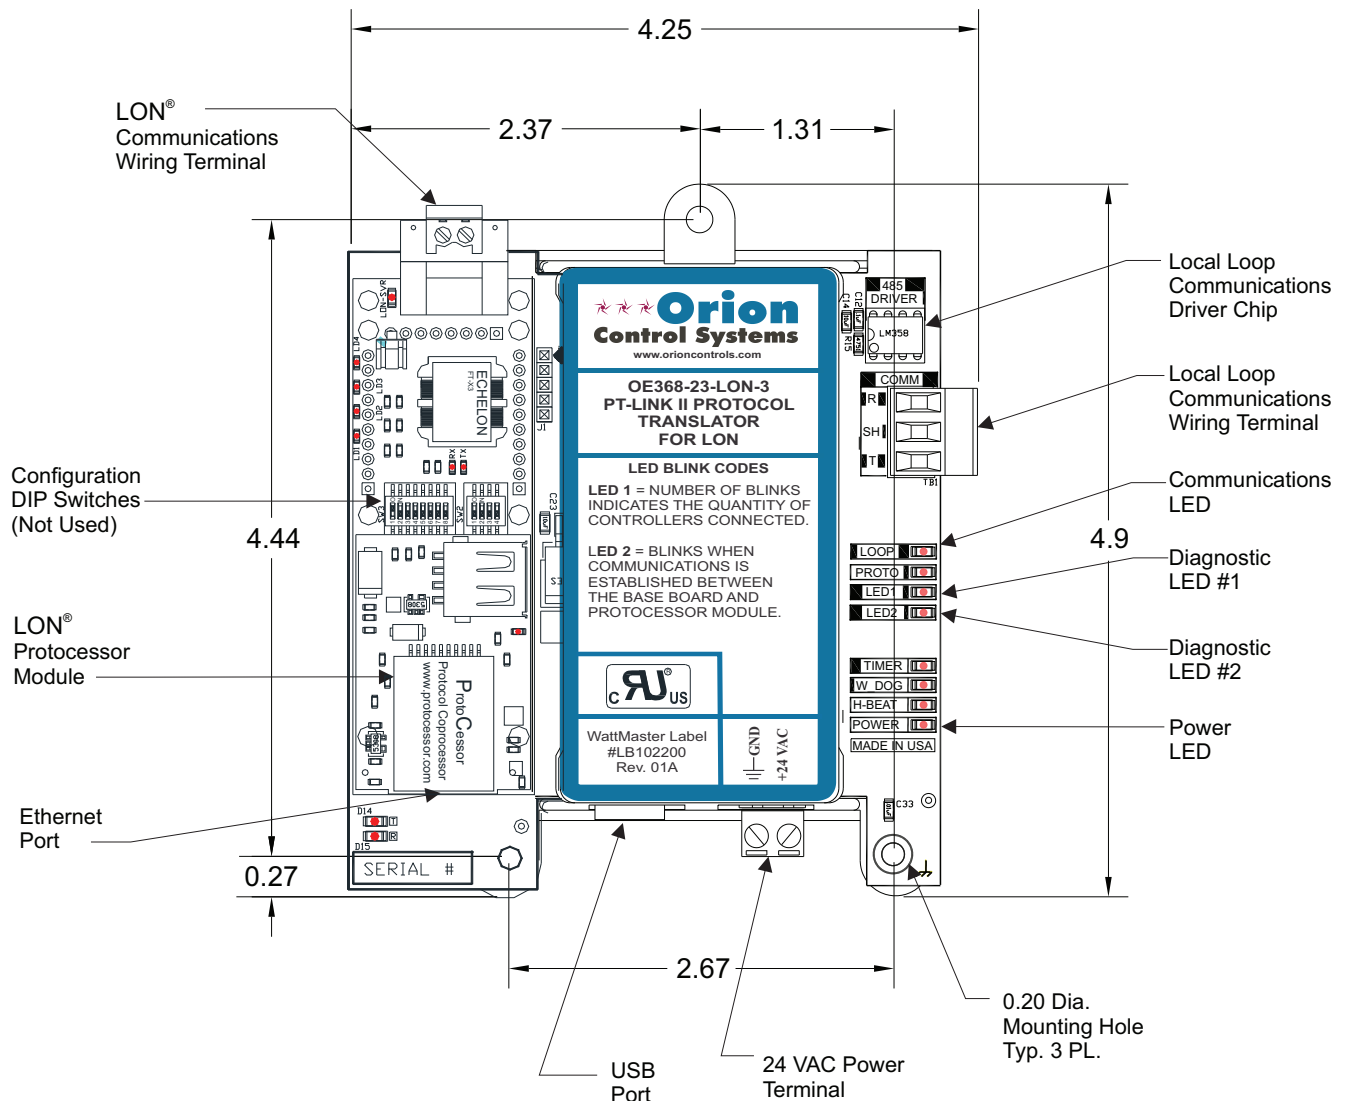

Figure 1: PT-Link II LON-3® Dimensions and Components
1. Familiarize yourself with the PT-Link II components (**Figure 1**). **NOTE:** The DIP Switches should be left in their default position which is all OFF. They are not used in this application.